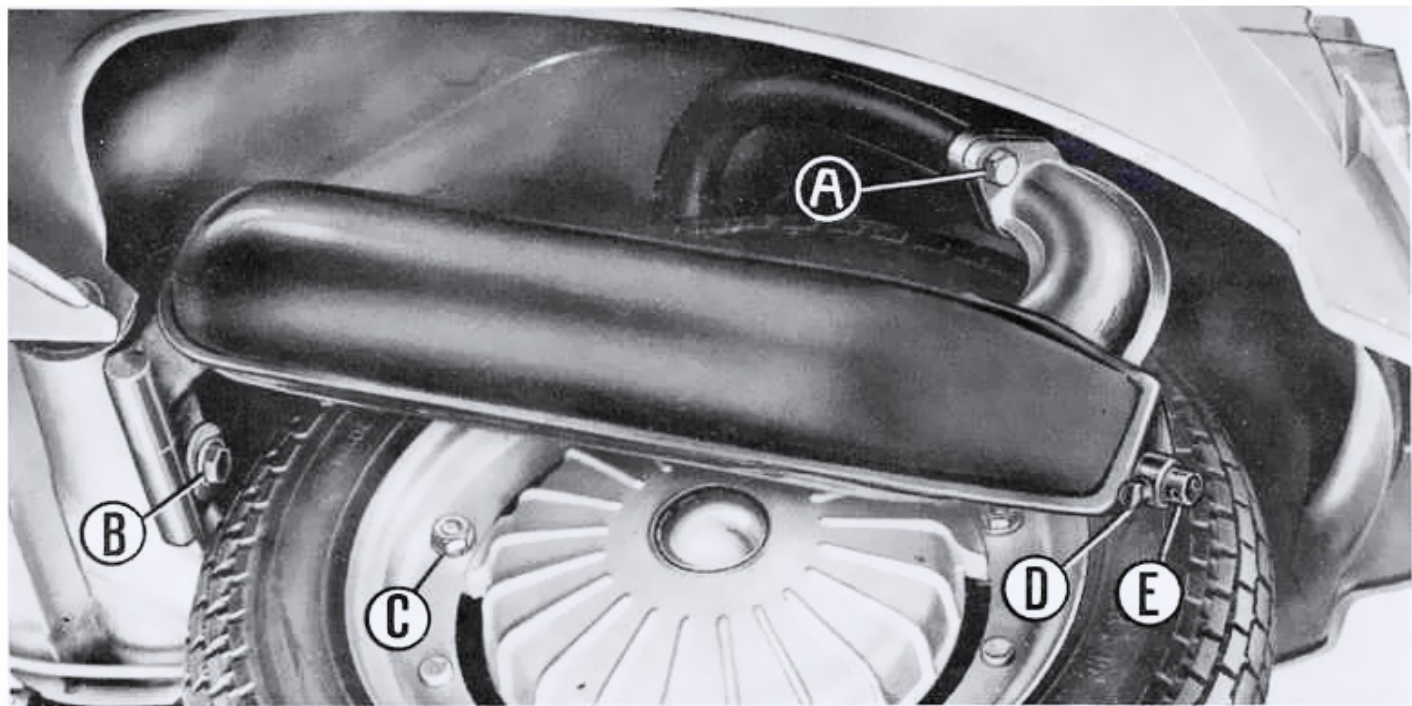

Fig. 15 - Removing rear wheel from the vehicle
Remove the carburettor, the exhaust silencer (fig. 15), the rear wheel (fig. 15), loosen the bolt on the motor arm (no. 9. fig. 1), unhook the rear shock and rotate the engine down to remove the engine cowl
To remove the rear wheel (nuts "C", fig. 15) you must first rotate the exhaust downwards by removing the upper fixings "A" on the silencer (13 mm. socket spanner) And loosen the attachment "B" from the crossmember (see fig. 15).
- 2) - Remove (by turning the screw "D") the exhaust tube "E" on the silencer (fig. 15) and de-carbonise it.